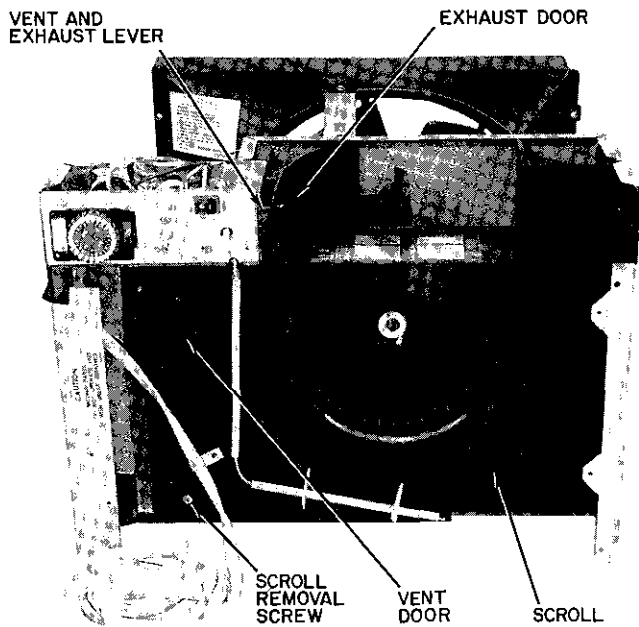

Fig 20 — Evaporator Scroll
- i Remove screw which holds the evaporator scroll to the partition See Fig 20
- 17 **Exhaust Door** — See Exhaust Door in Fig 20
- 18 **Vent Door** — See Vent Door in Fig 20
- 19 **Vent and Exhaust Lever** — See Vent and Exhaust Lever in Fig 20